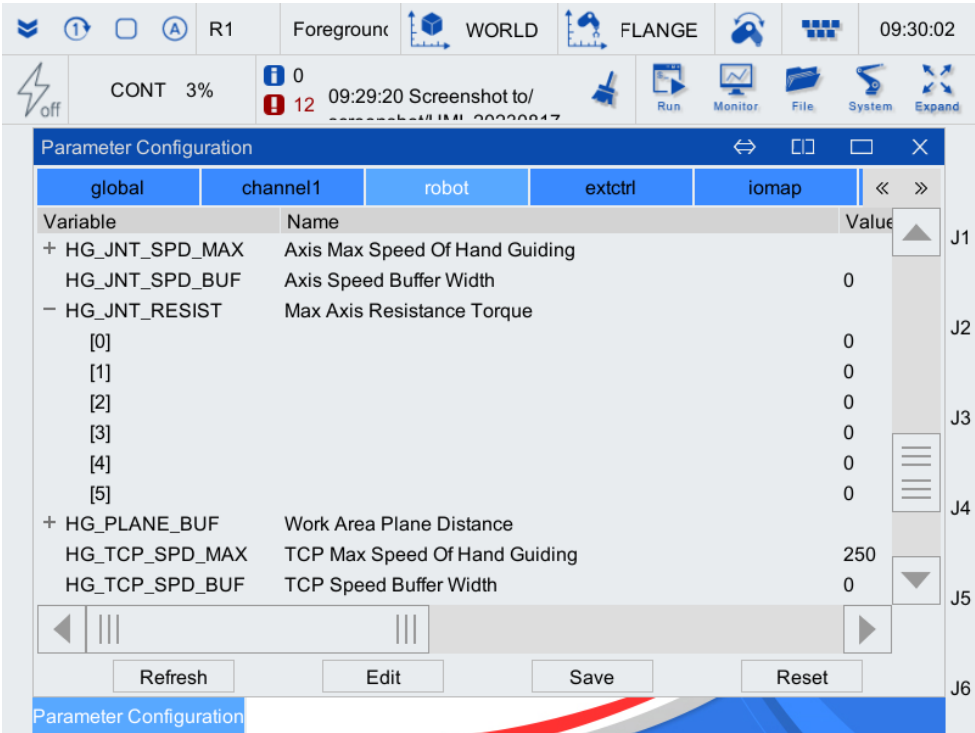

Figure 5-8 Axis maximum additional resistance moment parameter setting interface
Step3. Enter the parameter configuration interface, select the [robot] tab, as shown in Figure 5-8, click and select the sub item of the [HG_JNT_RESIST] parameter that needs to be configured (6 sets of data correspond to 1-6 axes respectively), and click <Edit>.